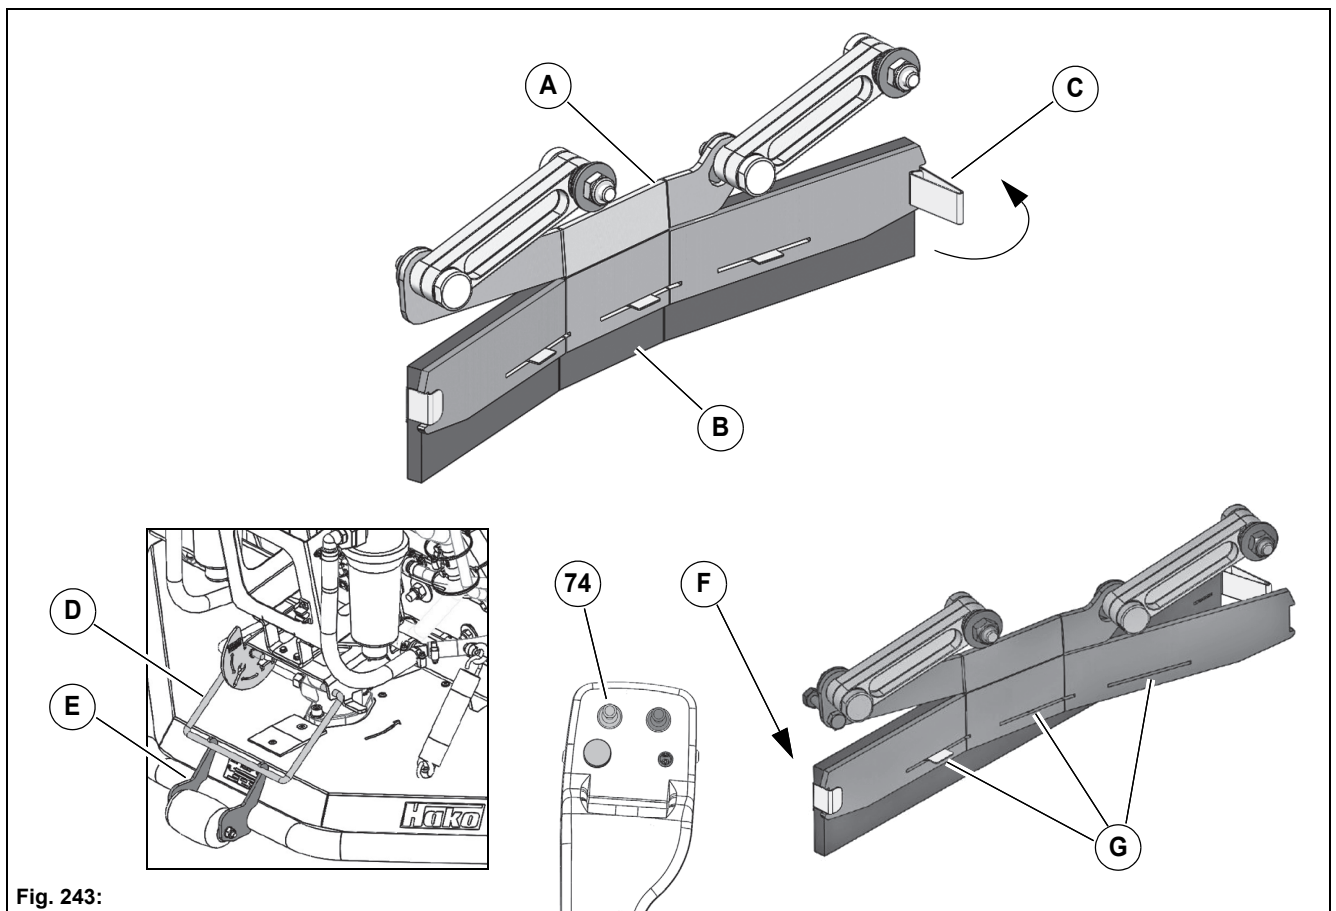

Fig. 243:
Check the side wipers **Fig. 243-A** of the scrubbing deck daily. Turn or replace worn sealing strips **Fig. 243-B**. The sealing strips **Fig. 243-B** and mounting clamps **Fig. 243-C** can be removed without tools.
2. The sealing strip can be removed with the mounting clamps by laterally pulling on the clamp **Fig. 243-C** of the mounting clamps.
4. Insert the sealing strip and the mounting clamps on one side **Fig. 243-F** of the holder. The guide lugs slide into the slots **Fig. 243-G**. This ensures the correct height position.